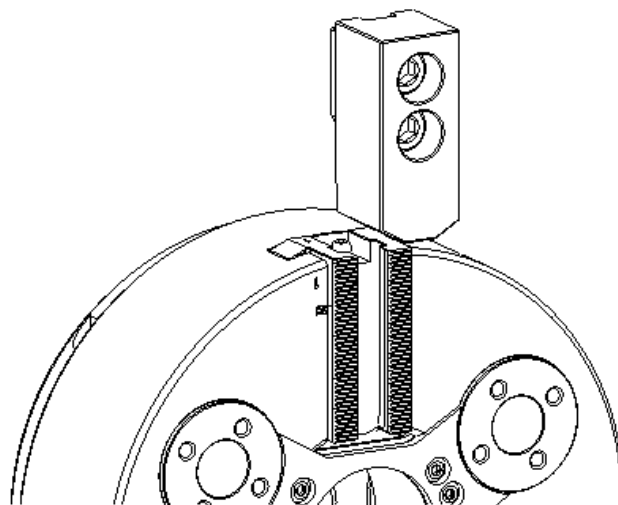

Figure 14-2 Insert the Tnut-Plus and Soft jaw into Master jaw
- To maintain the reproducibility of the Tnut-Plus, insert the Soft jaw into the Master jaw with the Master jaw positioned upward and tighten the attachment bolt. (See Figure 14-2)